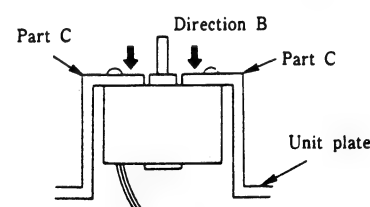

Fig. 9
- 3) At the time of service replacement of the DC motor (D2), do not apply excessive force in direction B. When part C of the unit plate is misshapen, it will cause eye pattern deterioration. (Fig. 9)